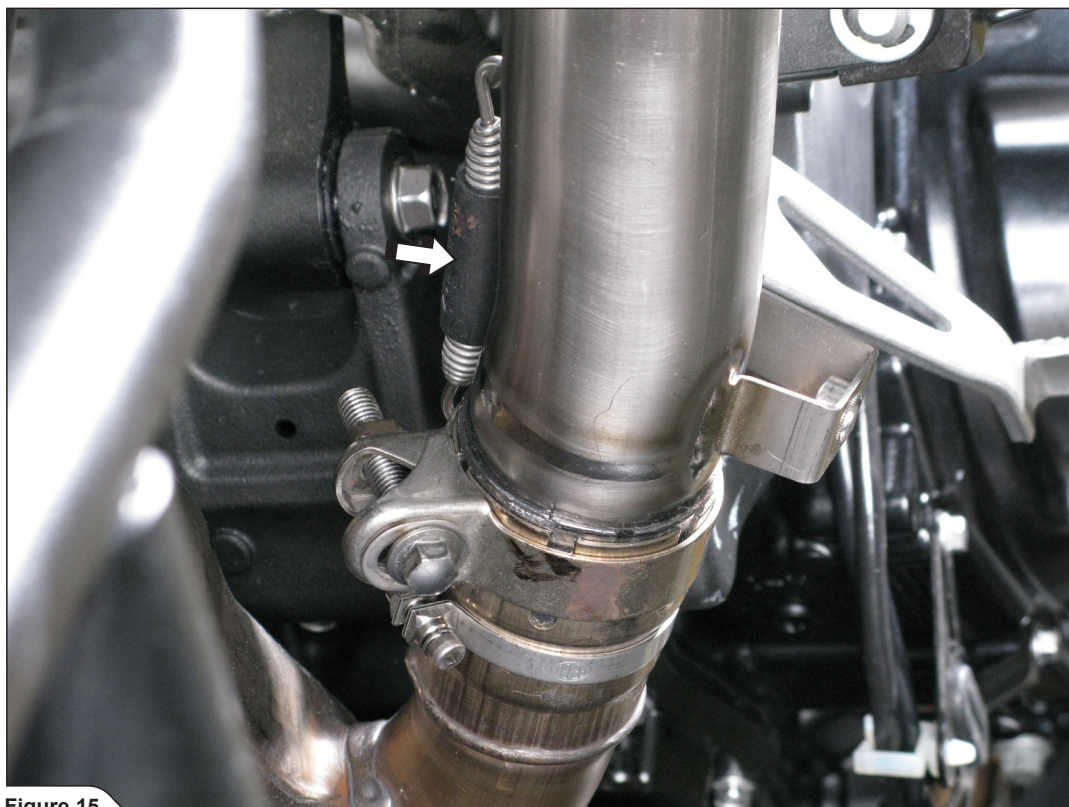

Figure 15
5. **For Slip-On Megaphone (model Z1000 only!):** slide the Megaphones all the way into the stock collector outlets, attach the springs, align the Megaphones in respect to the motorcycle and tighten the Megaphones to the brackets, using stock bolts and nuts (Figure 15, 16).